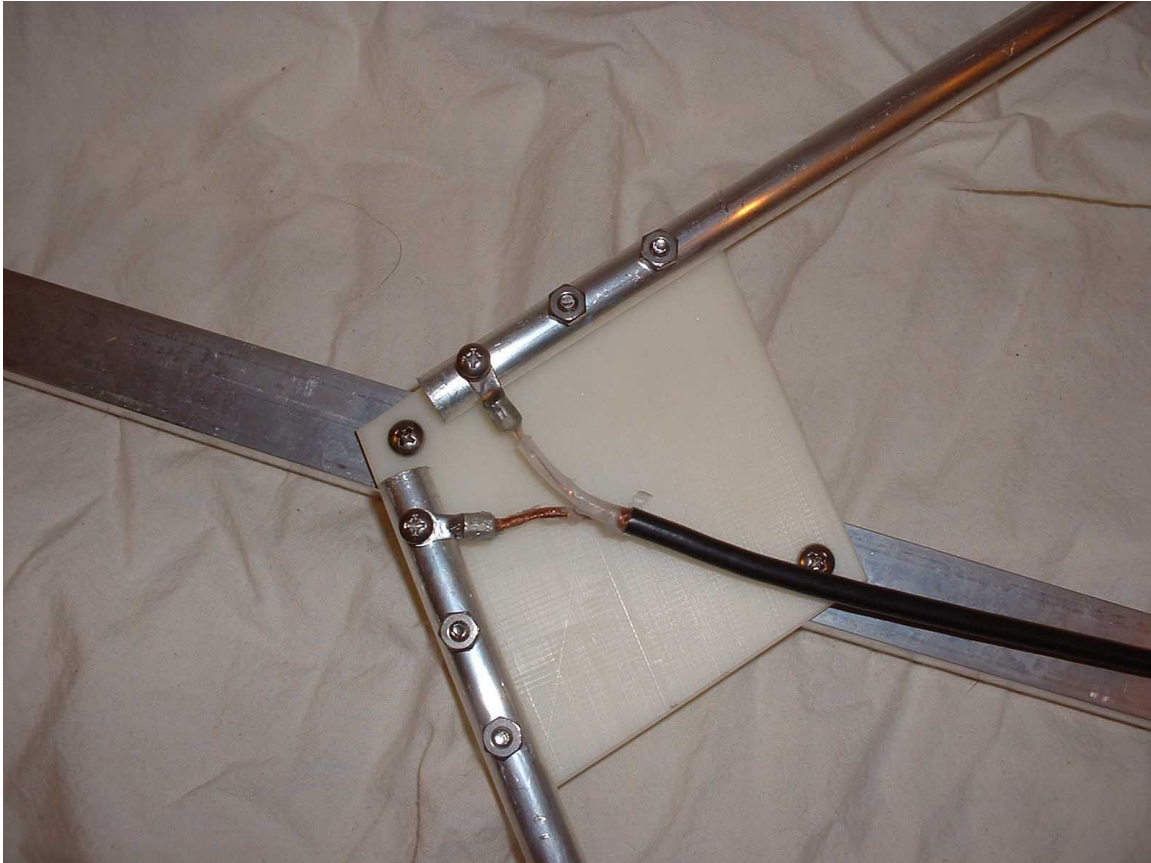
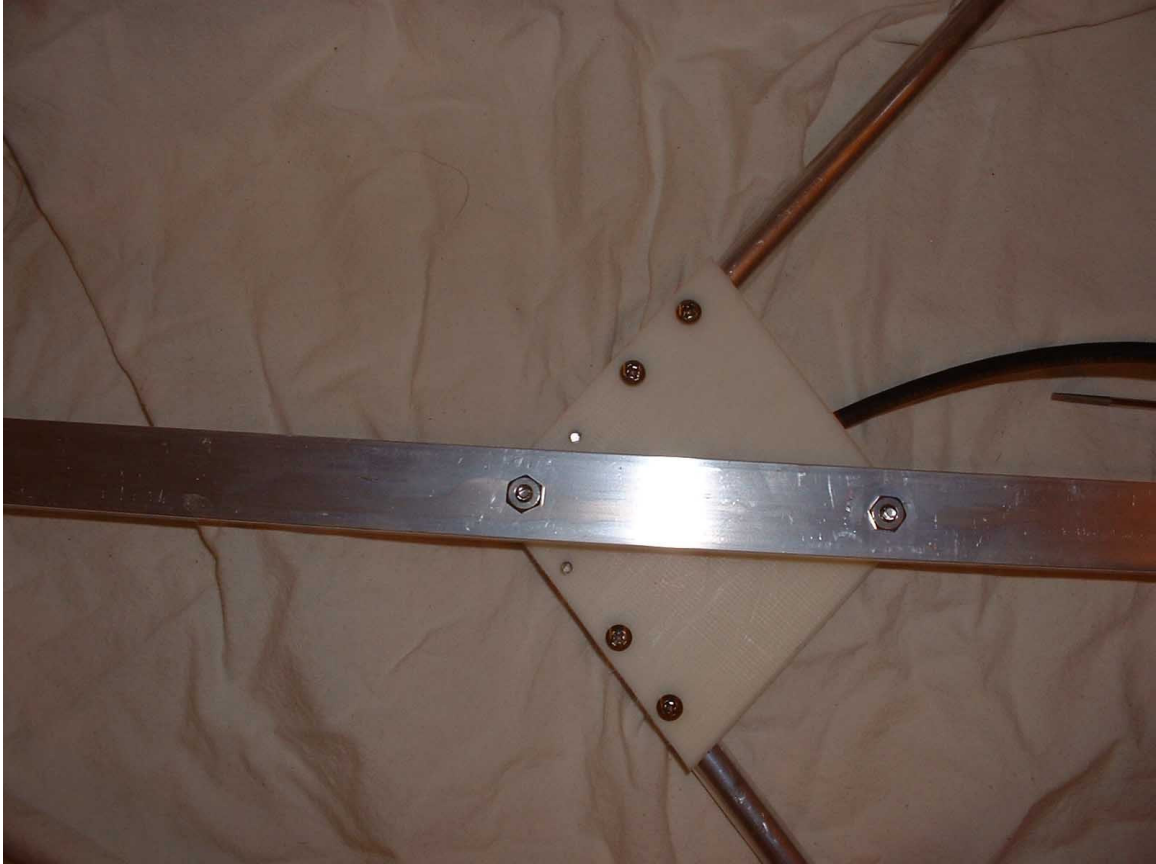

Fig 4.
Fig. 5
7. Fasten the RG62 (feed point at the elements is 93 ohms) with the 3/4 inch #8 bolts and lock washers provided. (NOTE: If in FM Mode ensure that the shield is fastened to the bottom element.) The elements will be located on the outside of the boom and the mounting plate for the cross boom is located on the top. See Fig 4.
If running more than 100w it is recommended that you insulate the bolt between the elements attaching the plate to the boom as shown in Fig. 4. Additionally, insulate the holes for the feed point as shown in Fig. 5.